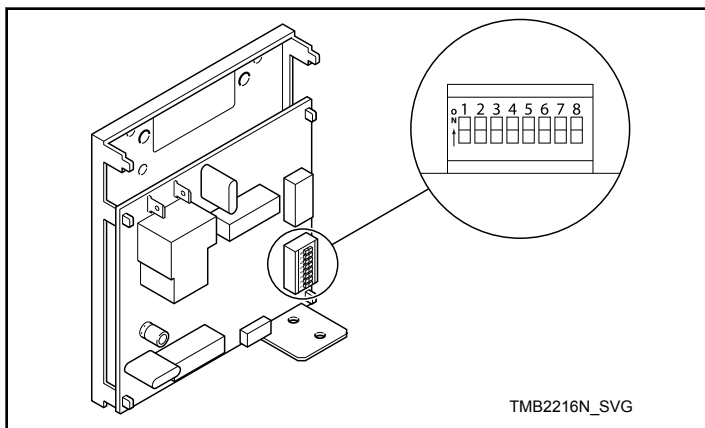

Figure 30
2. Write down machine control dip switch settings, then set them all to the off position. Refer to *Figure 30*.